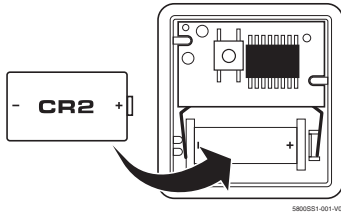

Figure 3
2. Check the battery polarity orientation before installing (see Figure 3).